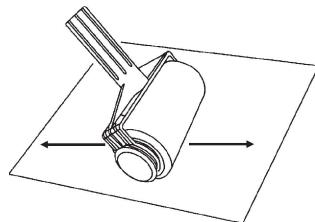

Fig.2
5. You now need to 'charge' the Paint Runner. Do this by rolling it on old newspaper for 2-3 minutes, until paint is visible all **over** the roller (Fig.2).